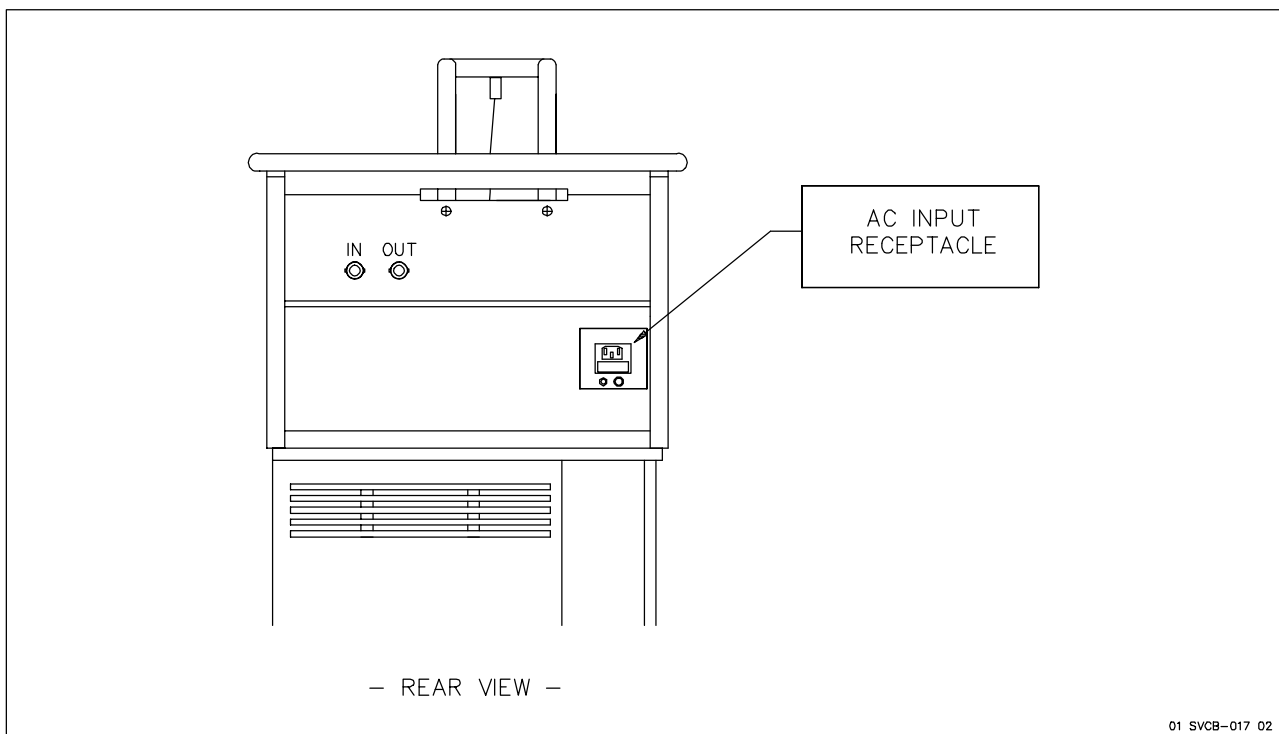

Figure 1.
10. Install replacement Power Distribution Assembly (Item 1 in Figure 1).